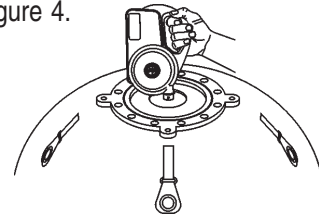

Figure 4. Inflating the Balloon
4. Inflate the balloon using the supplied blower as shown in Figure 4.